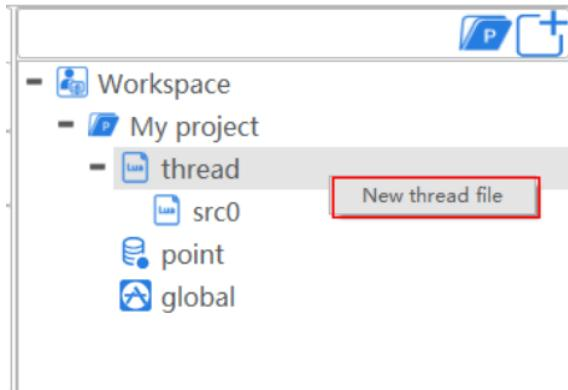

Figure 3.34 Create a project
**Step 6** Set the number of threads based on site requirements, as shown in Figure 3.34. Click **thread** and right-click **New thread file**.